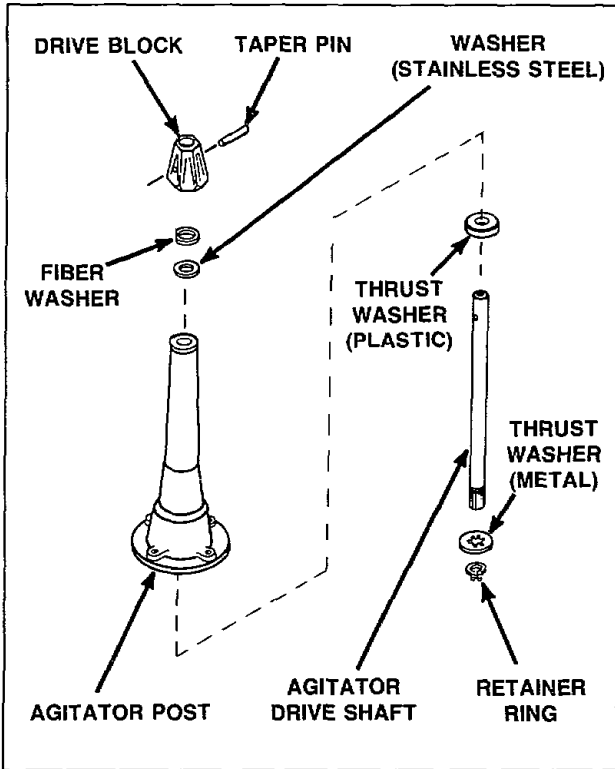

Figure 19
14. **AGITATOR DRIVE SHAFT** (Refer to Figure 19)